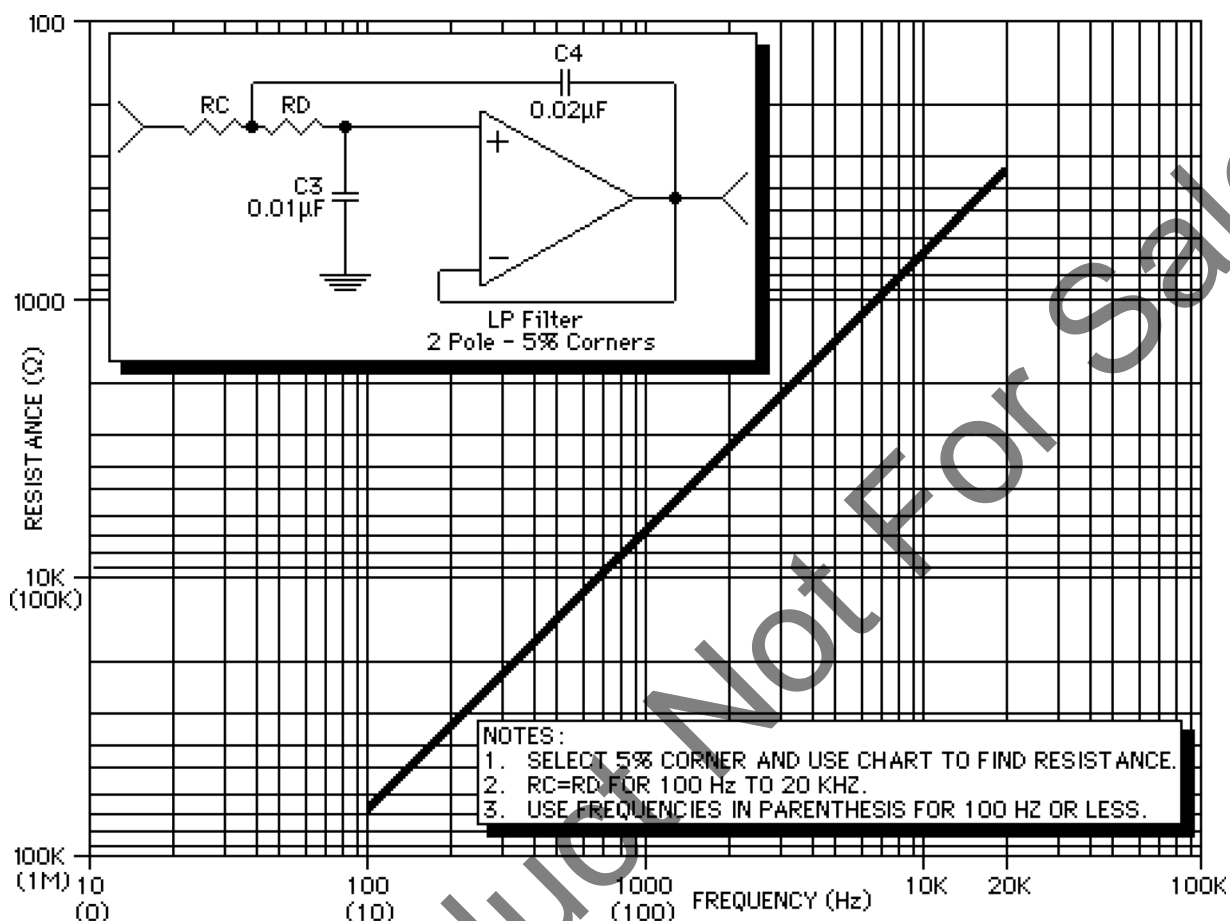

FIGURE 6-4: LOW PASS FILTER RESISTOR SELECTION CHART
1. Select a desired cut-off frequency and, using Figure 6-4, first determine the resistance value of resistors RC and RD. Both are the same in value ( $RC = RD$ ).